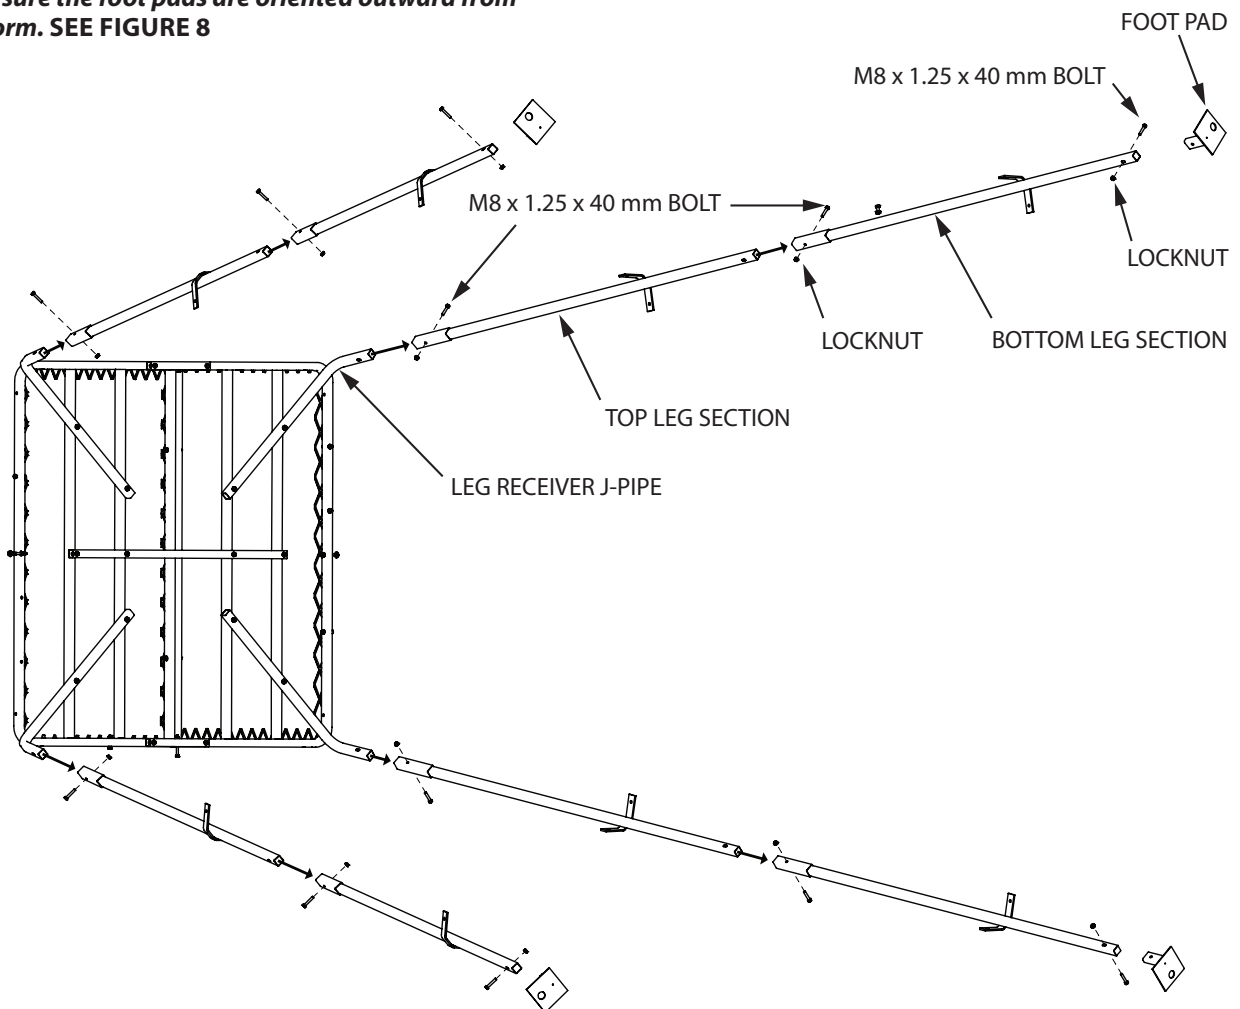

FIGURE 8
12. Attach foot pads (TP113) to four of the eight leg sections (TWR20) using (4) provided M8 x 1.25 x 40 mm bolts and locknuts. **SEE FIGURE 8.** This step now makes these four legs, the bottom section legs.
**NOTE: Be sure foot pads are oriented correctly in relation to the welded on bracket of leg section. Channel on foot pads should cradle on three sides of the leg sections. SEE FIGURE 8**
13. Insert each of the four remaining (top) leg sections into the bottom leg sections by inserting into pocketed end of bottom leg section. Attach each section together using (4) M8 x 1.25 x 40 mm bolt and locknut. **SEE FIGURE 8**
**NOTE: Be sure the welded on brackets on each leg section are oriented correctly in relation to each other. SEE FIGURE 8**
14. With assembled platform section laying on its side, insert all four assembled leg sections onto each leg receiver J-pipe using (4) provided M8 x 1.25 x 40 mm bolts and locknuts. **SEE FIGURE 8**
**NOTE: Be sure the foot pads are oriented outward from the platform. SEE FIGURE 8**